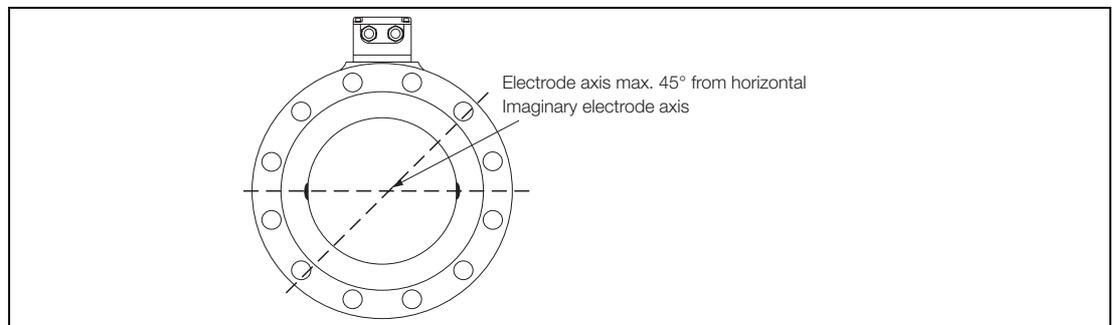

Fig. 5:
- Electrode axis should be horizontal if at all possible or no more that 45° from horizontal (Fig. 5)